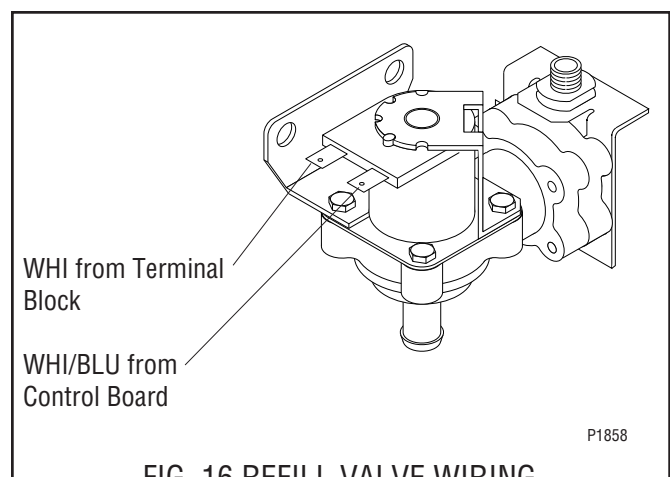

FIG. 16 REFILL VALVE WIRING
7. Refer to FIG. 16 when reconnecting the wires.